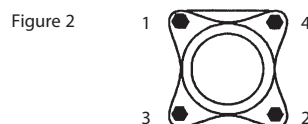

Figure 2
I. Install and tighten all bolts (14) finger tight.
J. Evenly tighten bolts (14) going around three or four times, alternating sides and in sequence shown in Figure 2. Bolts should be tightened until body (1) and end adapter (2) mating surfaces are metal to metal, but do not exceed torque values listed in Table 2. Do not substitute for original bolts. Replacements may be ordered if necessary.
K. Install handle (8) and handle nut (9).